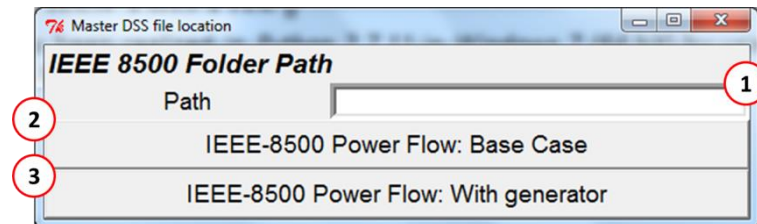
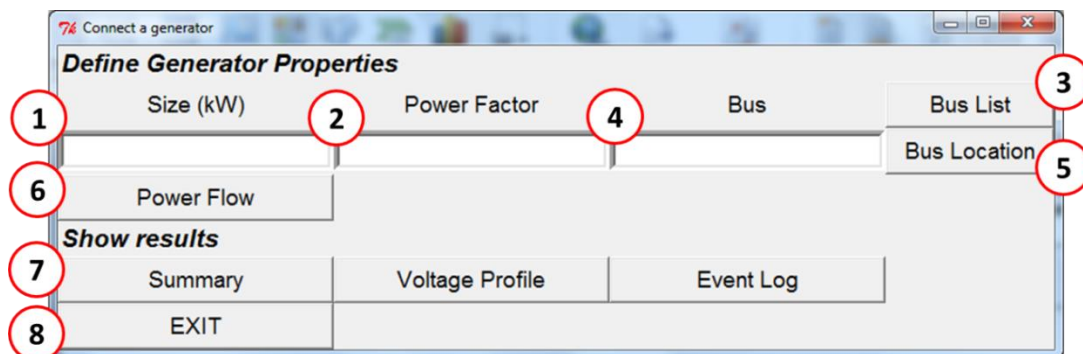

Figure 2 First window: define the path and decide which power flow carry on
Figure 3 Second window: define generator properties
The first window that will be opened requires the user to indicate the path where the IEEE Test Case 8500-Node is located (field 1 in Figure 2). Once the path is inserted the user can choose to:
1. Hit the button “IEEE-8500 Power Flow: Base Case” (2 in Figure 2): A power flow in the default condition will be run. At the end of the process the following 3 windows showing results will be opened: Summary – Voltage Profile – Event log
2. Hit the button “IEEE-8500 Power Flow: With generator” (3 in Figure 2): In this case the user will be introduced to a second window in which the generator features can be inserted (next section).
In case the user hit the button 3 in Figure 2 a second window (Figure 3) will be opened.
- A. Insert the Size (in kW) of the generator in the field “Size kW” (1 in Figure 3);
- B. Insert the Power Factor of the generator in the field “Power Factor” (2 in Figure 3);
- C. Hit the button “Bus List” (3 in Figure 3). A window will be opened reporting the name of the buses in which the generator can be connected2;
- D. Copy and Paste (CTRL+C and CTRL+V keyboard button respectively) the name of the chosen bus from the bus list to the “Bus” field (4 in Figure 3). The bus position within the network can be shown by hitting the “Bus Location” button (5 in Figure 3);
- E. The power flow can then be solved hitting the button “Power Flow” (6 in Figure 3);
- F. The results can be visualized by pressing the buttons “Summary” – “Voltage Profile” – “Event Log” (7 in Figure 3);
- H. Press the button “EXIT” (8 in Figure 3) to close the two GUI windows (Figure 2 and Figure 3).